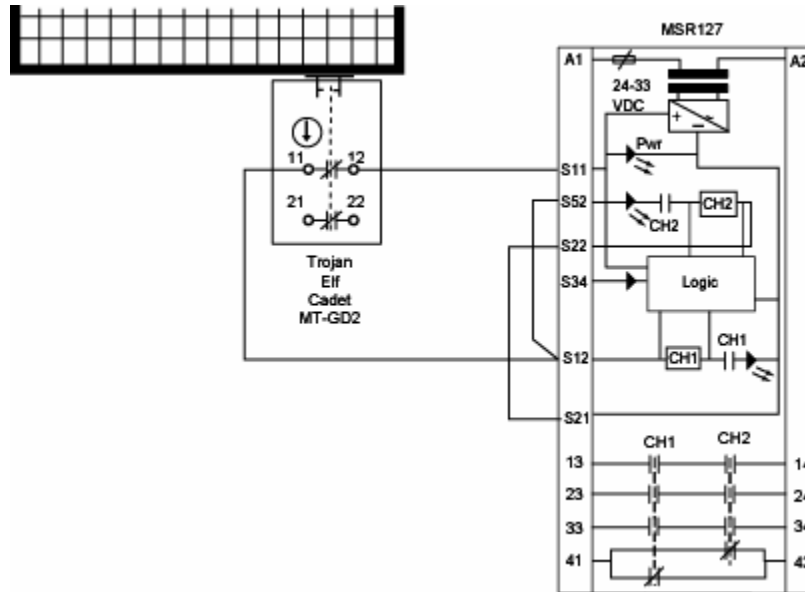

Figure 2. Single Channel with One Tongue Interlock
- The circuit is considered normally closed (NC) when the gate is closed.
- The input circuit arrangements, shown in Figures 2 and 3, meet the requirements of EN954-1 Category 2.